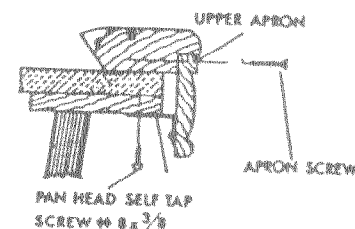

Fig. 13
24. Attach aprons to rails securely, using eighteen (18) apron screws, #8 x 1-14/16" long as shown in Figure 13.